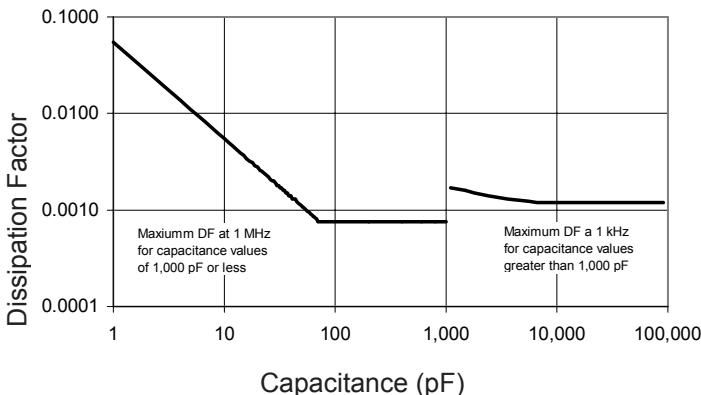

Figure 1. DF vs. Capacitance
**Dissipation Factor** limits are below. Dissipation factor is equal to  $DF=2\pi fRC$ , where  $f$  is the test frequency,  $R$  is the equivalent series resistance, and  $C$  is the capacitance. For other capacitance values, see Figure 1.